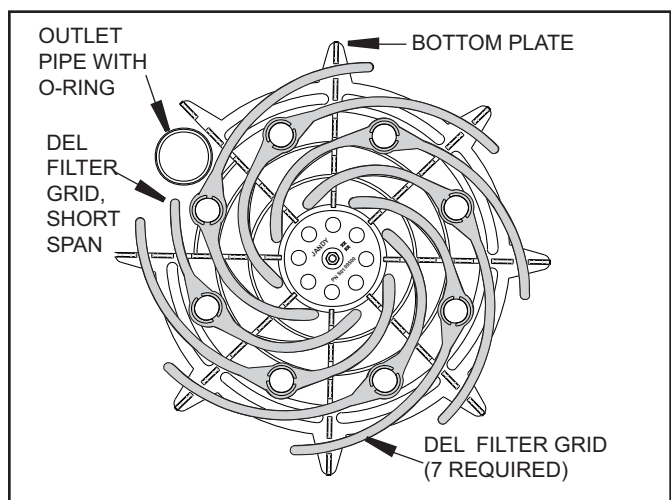

Figure 9. Filter Grid Arrangement
6. To reassemble the filter grid assembly, arrange the filter grids into position on the bottom plate (see Fig. 9). Use the plastic top spacer to hold the grids in place.